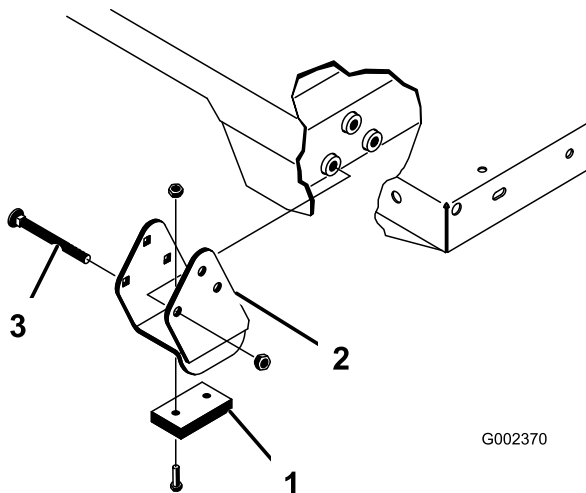

Figure 32
**Note:** Ensure that the spacer brackets and wear blocks (Figure 32) are installed with the carriage bolt heads positioned inside the machine.
frame channel and install 2 clevis pins and lynch pins (Figure 32).
3. With the bed lowered, secure each cylinder rod end, to the appropriate slots in the bed mounting plates with a clevis pin and lynch pin. Insert the clevis pin from outside of the bed with the lynch pin toward the outside (Figure 32). The rear slots are for a full bed installation and front slots are for a 2/3 bed installation.